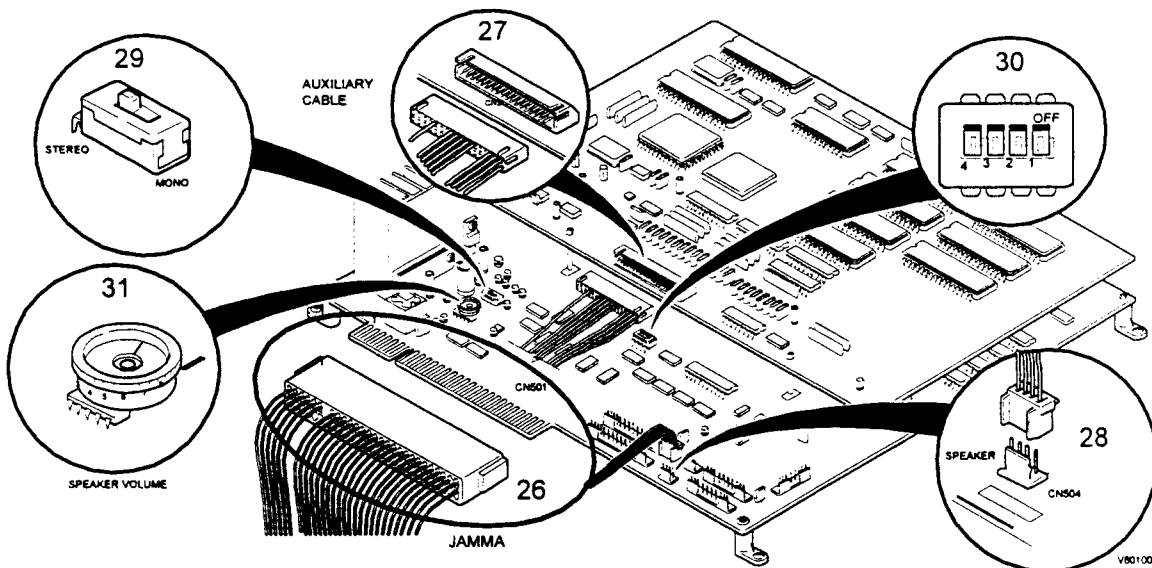

Figure 10: PC Board Wiring Connections & Adjustments
26. Connect the JAMMA harness connector to the edge connector located on the bottom PC board (see Figure 10).
27. Attach the auxiliary cable connector to the top PC board at location CN2 (see Figure 10).
28. Attach the speaker harness connector to the PC board at location CN504 (see Figure 10).
29. Check that the mode switch, on the lower PC board, is set to "STEREO" (see Figure 10).
30. Check that all 4 positions of the DIP switch are set to OFF (see Figure 10).
31. Power-up the game and adjust the speaker volume by turning the Volume Control knob clockwise to increase volume, or counterclockwise to decrease volume (see Figure 10).